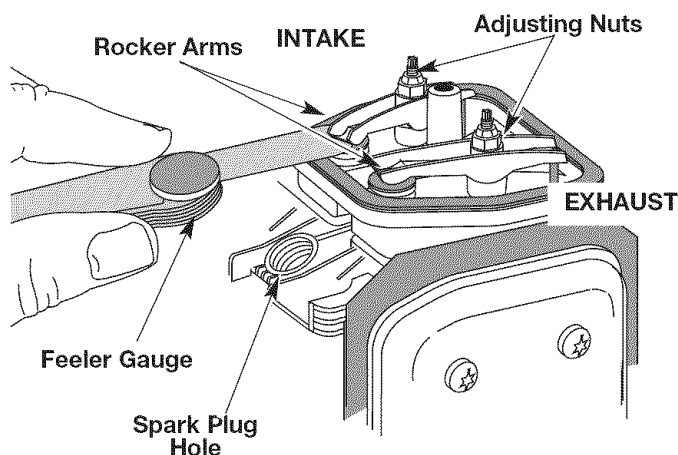

Fig. 32
- The piston is at the top of its travel while looking in the spark plug hole (Fig. 32).
The recommended clearance for both intake and exhaust is .003 – .006 in. (.076 – 0.152 mm). Use a standard automotive .005 in. (0.127 mm) feeler gauge. The feeler gauge should slide between the rocker arm and valve stem with a slight amount of resistance, without binding. See Figures 32 and 33.